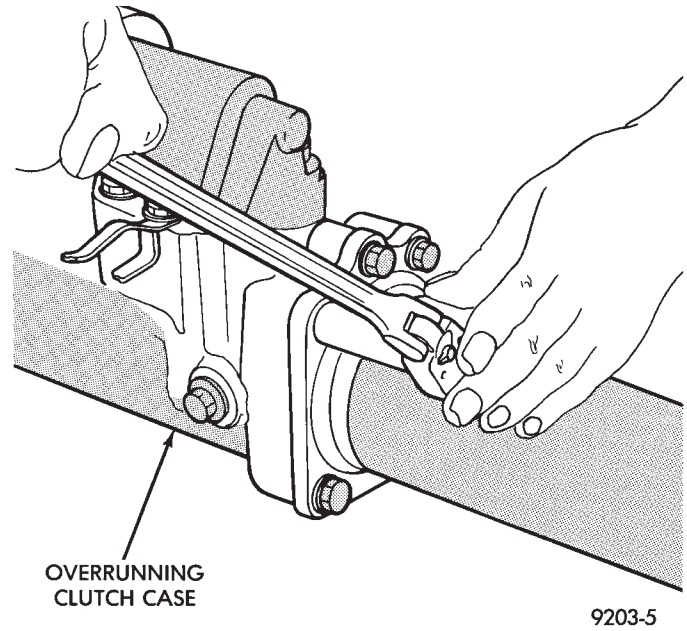

Fig. 14 Torque Tube Bolts
- (11) Remove torque tube retaining bolts (Fig. 14).